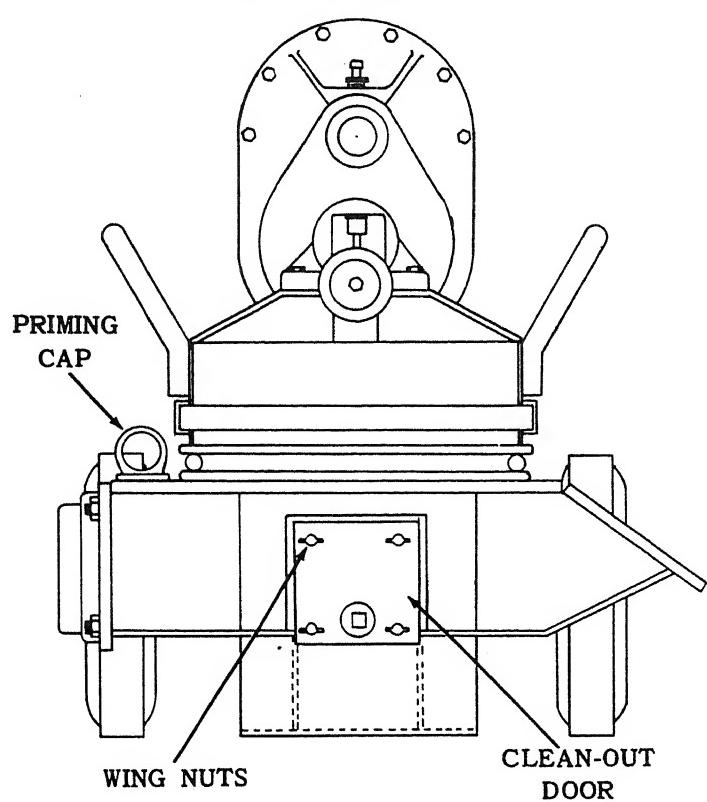

FIGURE 3
9. Movement to new worksite — Disconnect the suction and discharge hose from the pump. Drain pump body by removing the pump drain plug, reference, Fig. 7. If extremely hi-solid content water, mud or mucky water has been pumped, the pump body should be flushed out with clean water. The clean-out door may be removed for this purpose, reference, Fig. 3 and 7.
- 14. Pump body clean-out door - Fig. 3 - A clean-out door is provided for quick inspection and clean-out. After pumping of muddy, sludge water, or water containing chemicals harmful to rubber, the pump body should be flushed out with clean water. Access to the inside of the pump body is made by removing four wing nuts holding clean-out door to pump body and remove door. Take door and rubber gasket. Turn wing nuts down tight.